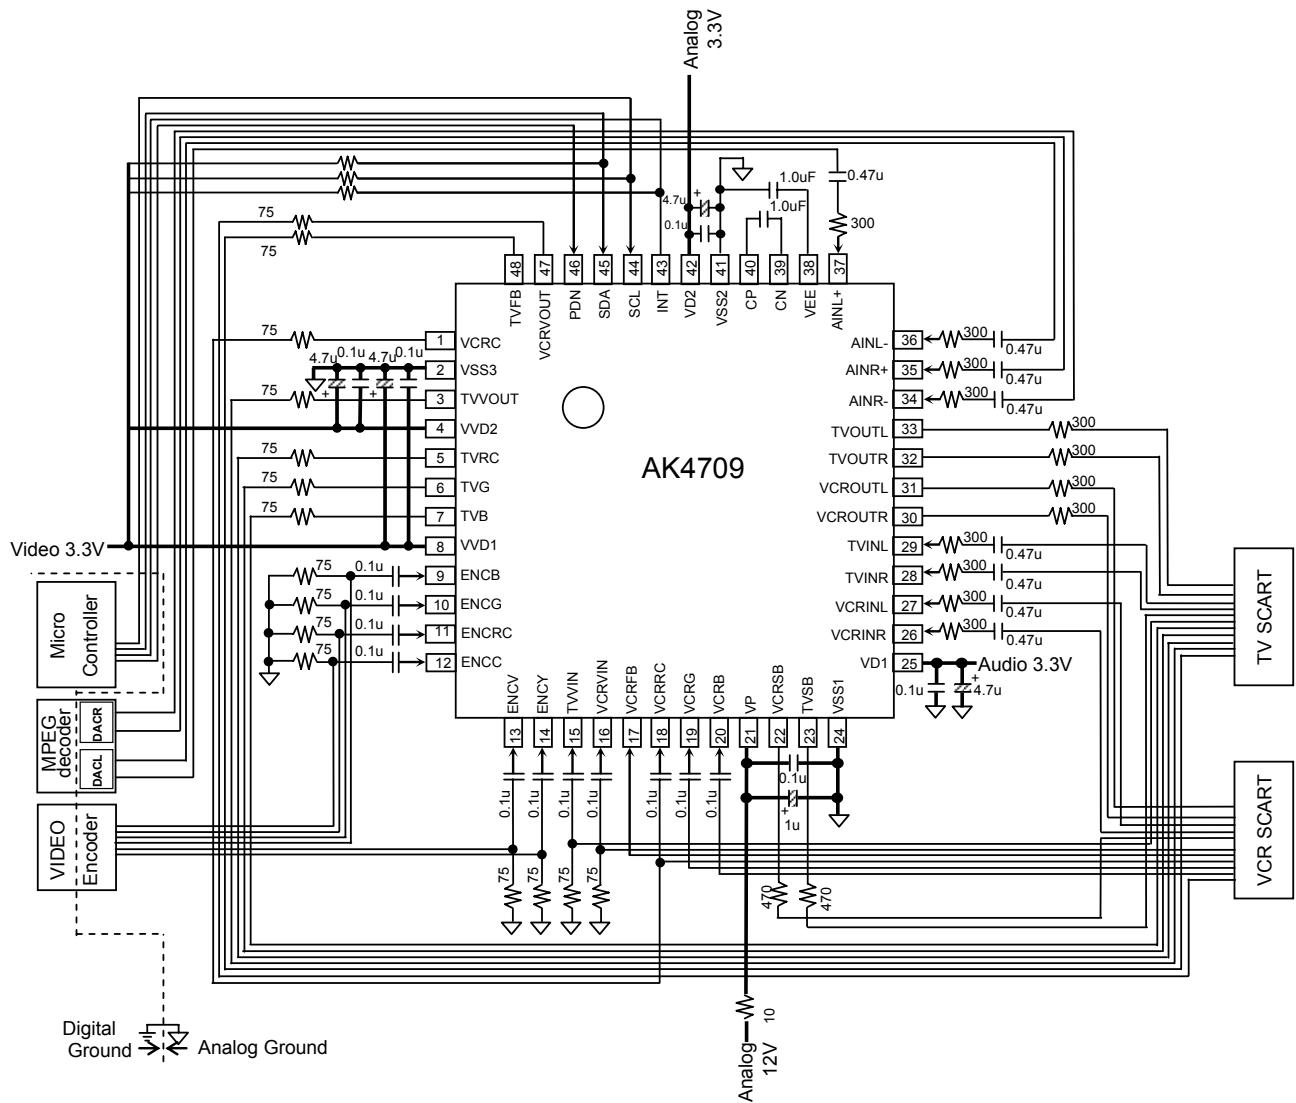

Figure 20. Typical Connection Diagram
**Figure 20** shows the system connection diagram example. The evaluation board AKD4709 demonstrates application circuits, the optimum layout, power supply arrangements and measurement results.
The VP pin must be connected to the Analogue 12V power supply via a 10ohm resistor and with a 0.1 $\mu$ F ceramic capacitor in parallel with a 1 $\mu$ F electrolytic capacitor to VSS1, as shown in Figure 20.